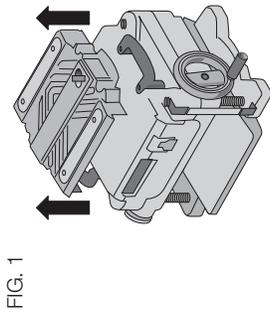

FIG. 2
4. Rotate the dust shroud up so the round connection that locks onto the fan housing is in the open position (Fig. 2).
2. Remove the dust shroud (Fig. 2, 3) and place it aside.